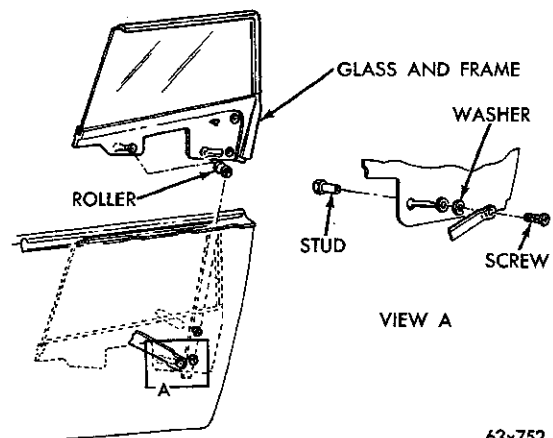

Fig. 78—Front Door Glass and Frame (Imperial)
(3) Remove the two screws and studs from the window regulator arms (Fig. 78).
(4) Raise the door glass up and out of the run channels.
(5) Remove the rollers from the glass lower frame.